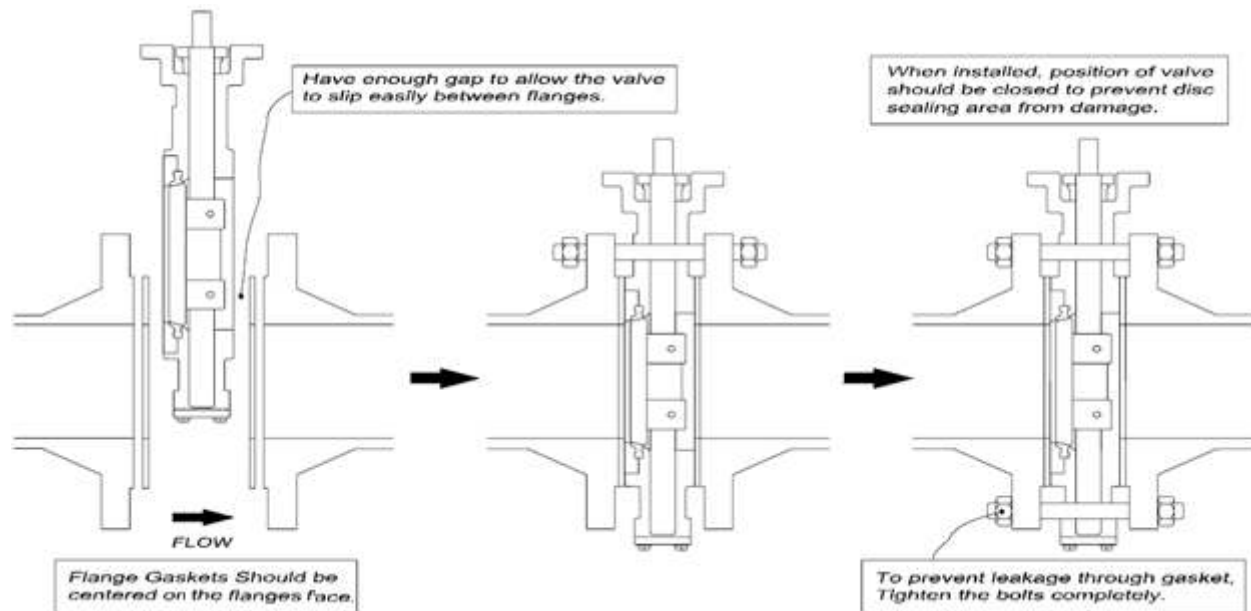

FIGURE 3. INSTALLATION DIAGRAM
1. Refer to Figure 3 prior to installation for diagram.